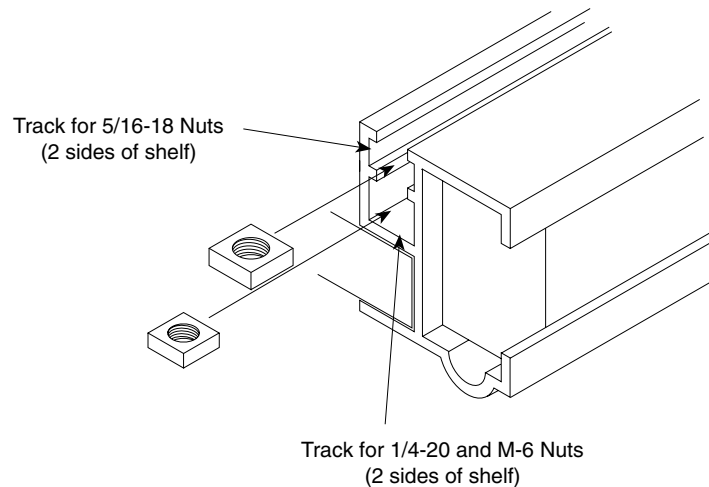

Figure 2.1 — Install Square Nuts
- B. As shown in Figure 2.1, slide the twelve (12) M6 or ¼-20 square nuts into the upper track of the shelf. The M6 nuts should be used only if you have accessories with M6 metric screws.